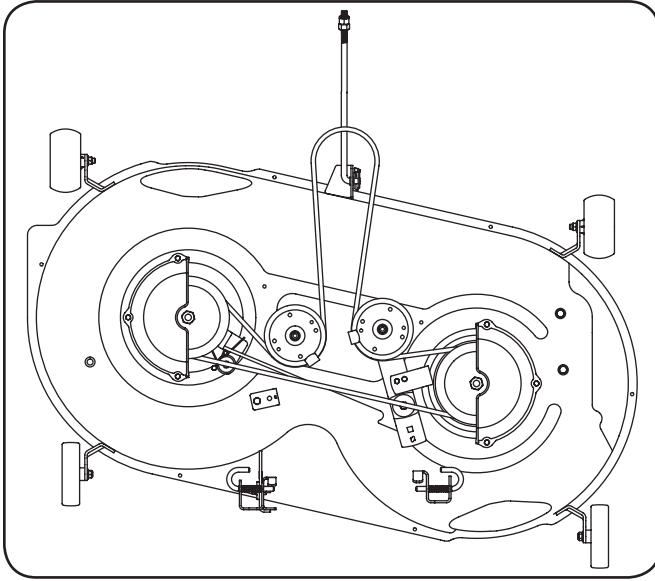

**Figure 7-8**
6. To place the new belt, begin by routing the belt around the two outer spindle pulleys as shown in Fig. 7-8.
7. Then route the belt around the two deck idler pulleys as shown in Fig. 7-8.